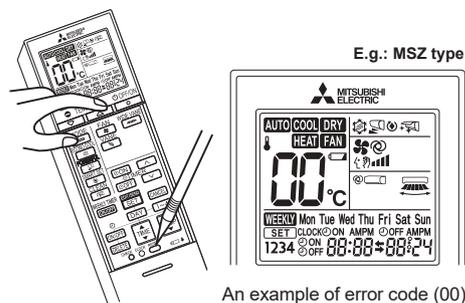

Figure 1
① While pressing both Operation select button and TEMP + button on the remote controller at the same time, press RESET button.
② First, release RESET button. Hold down the other 2 buttons for another 3 seconds. Make sure that the indicators on the LCD screen shown in the right figure are all displayed. **(Figure 1)** Then release the buttons.